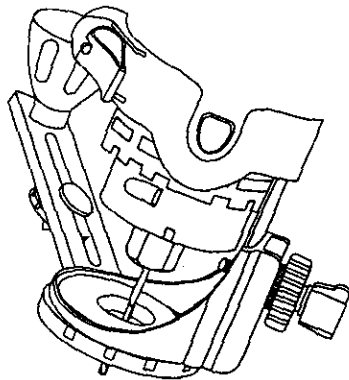

Fig. 13
4. Rest the edge of the freehand cutting guide on the workpiece with the bit at an angle of about 45° (see Fig. 13). Insert the circle cutting guide pivot point into the pilot hole drilled at the centre of the circle.